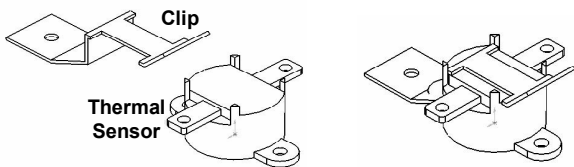

**Figure 38 -
9. The blowers are to be inserted flat through the engine cutout in the firebox floor. Slide each blower over to the sidewall location. *Figure 38*